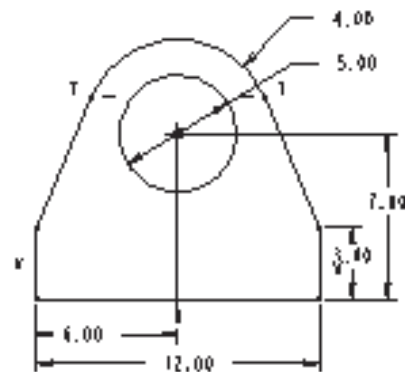

Figure 1-32 Sketch after regeneration
1. Choose the **Regenerate** option from the **SKETCHER** menu in the **Menu Manager**. The sketch is regenerated successfully and the sketch is now complete, see Figure 1-32.